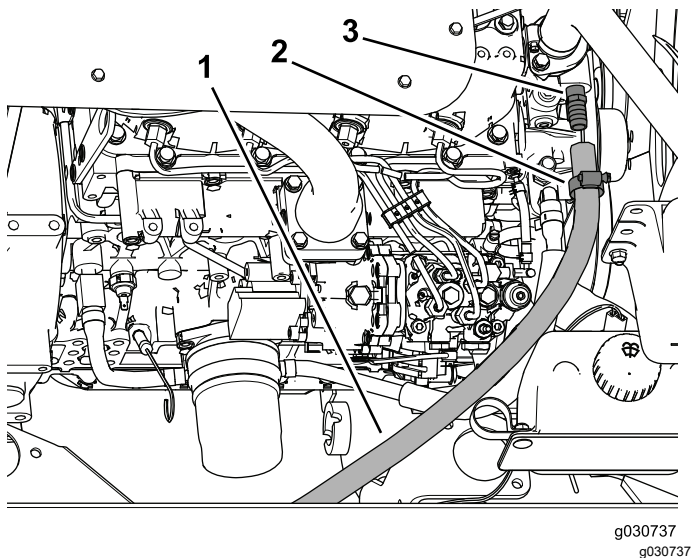

Figure 36
5. Slide the hose clamp over the supply hose and then insert the hose over the fitting (3/8 NPT x 0.625 barb) as shown in Figure 36.